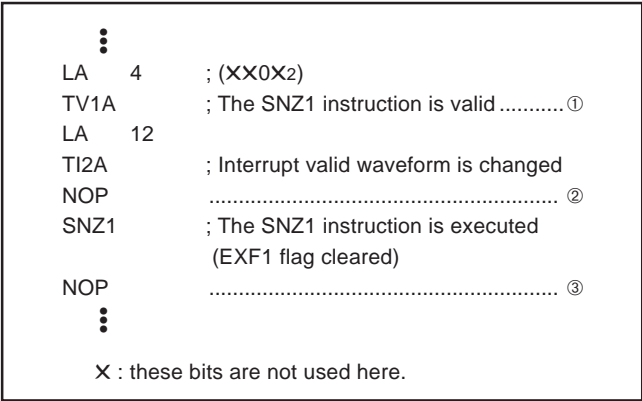

Fig. 23 External 1 interrupt program example-3
- Depending on the input state of the P31/INT1 pin, the external 1 interrupt request flag (EXF1) may be set when the bit 2 of register I2 is changed. In order to avoid the occurrence of an unexpected interrupt, clear the bit 1 of register V1 to "0" (refer to Figure 23①) and then, change the bit 2 of register I2. In addition, execute the SNZ1 instruction to clear the EXF1 flag after executing at least one instruction (refer to Figure 23②). Also, set the NOP instruction for the case when a skip is performed with the SNZ1 instruction (refer to Figure 23③).